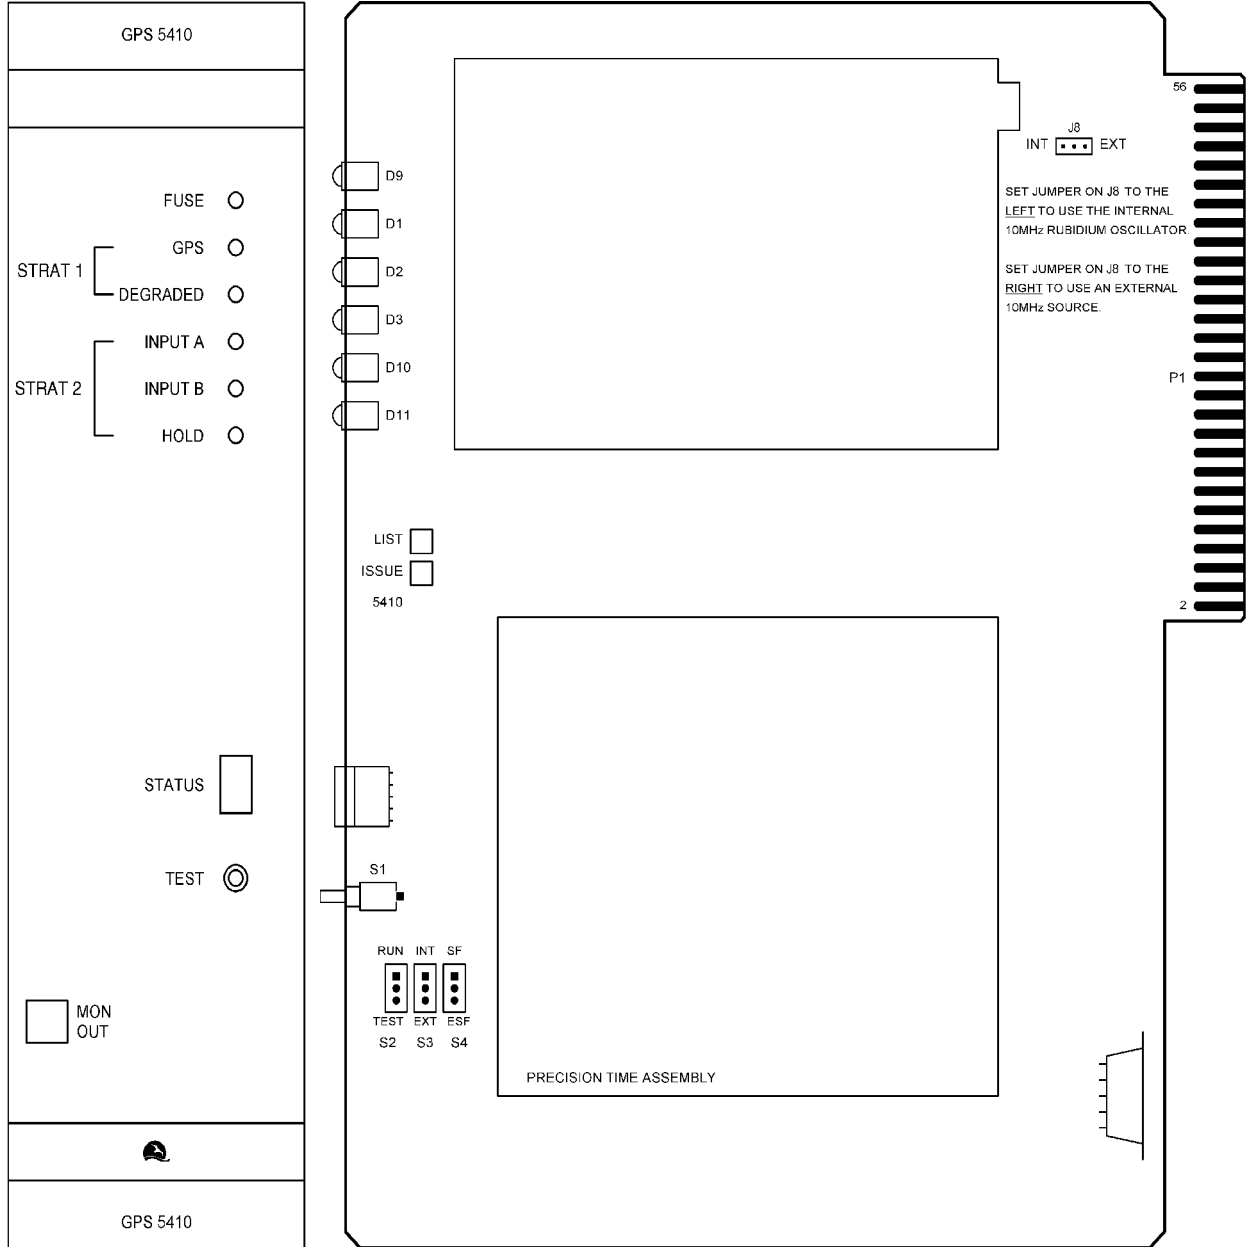

Figure 3-11. Model 5410 GPS Stratum 1 Track and Stratum 2 Hold Card with Front Panel
3.3101 For switch locations and front panel of the Model 5410, refer to Figure 3-11.